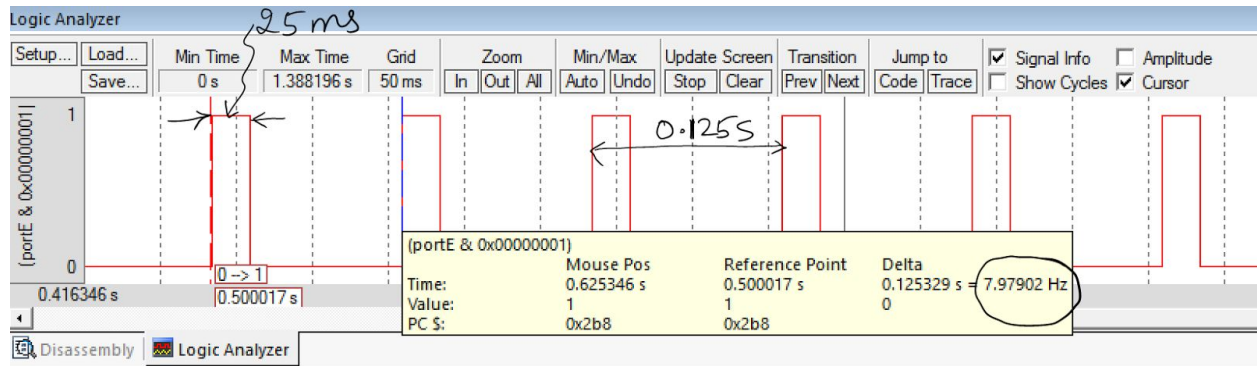

Figure 3.10a. Simulation of Lab 3, showing PE0 output toggling at 8 Hz with 20% duty-cycle.
3. Screenshots like Figure 3.10a,b showing your debugging in the simulator